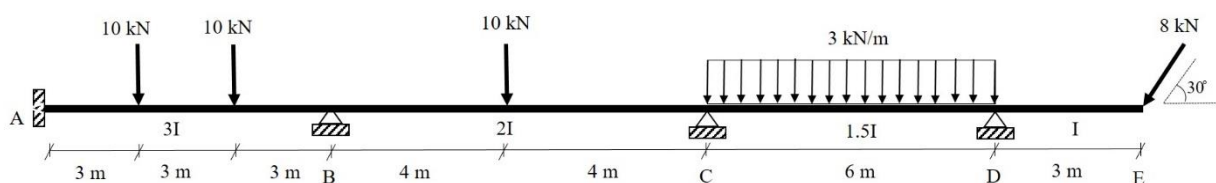

Figure 3
3. **Figure 3** shows a beam carrying point loads of 10 kN along span ABC at certain distance. Meanwhile, span CD carries a uniformly distributed load of 3 kN/m and a point load of 8 kN acting at 30° from the horizontal plane at overhang portion of span DE. Support A is fixed and supports B, C and D are pinned. The moment of inertia of spans AB, BC, CD and DE are $3I$, $2I$, $1.5I$ and I , respectively. E is constant for the beam. Compute the internal moments at the joint of the beam by using the slope deflection method. Fixed end moment is given in the **Appendix**.